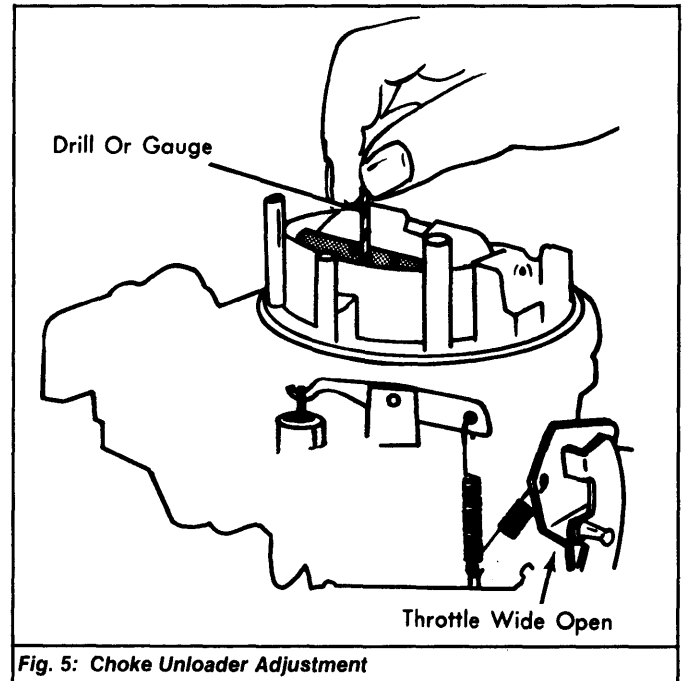

Fig. 5: Choke Unloader Adjustment
- 1) Hold throttle valves in wide open throttle position, rotate choke valve toward closed position until pawl on fast idle lever contacts fast idle cam. See Fig. 5.